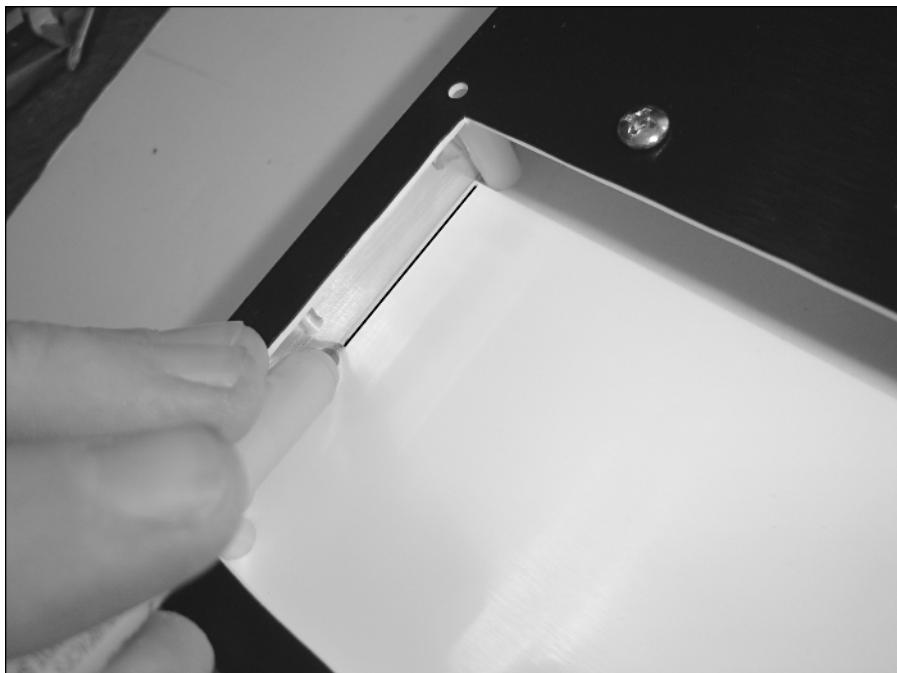

FIGURE 16-5: Tracing the shape of the case on the engraving plastic to make the battery backer.
1. Set the rear half of the case over a scrap piece of 1/16" engraving plastic, with the edge of the plastic just touching the center screw posts. Trace around the inside of the case as seen in Figure 16-5.